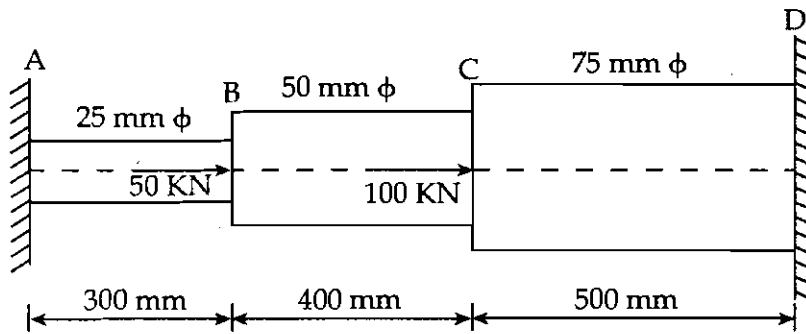

Figure 2
- (b) A circular steel bar ABCD, rigidly fixed at A and D is subjected to loads of 50 kN and 100 kN at B and C as shown in Figure 2, Find the loads shared by each part of the bar and displacements of the points B and C. Take E for steel as 200 GPa.